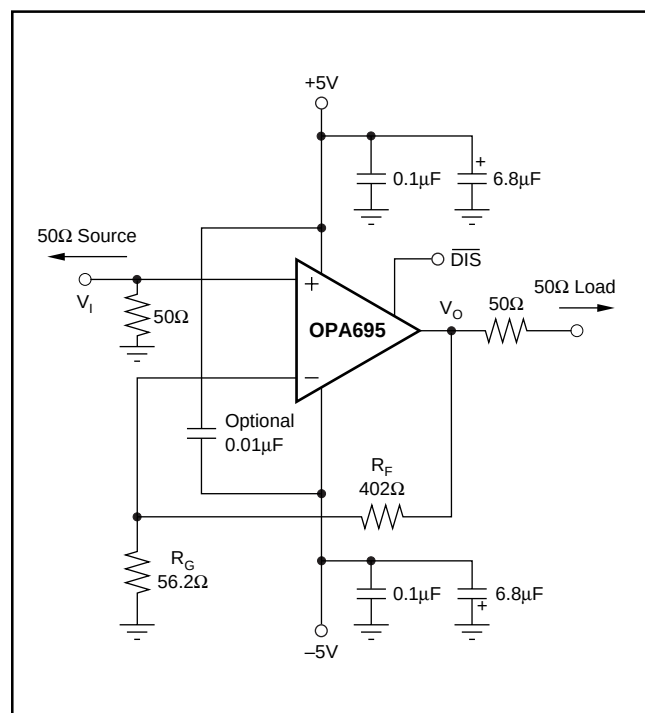
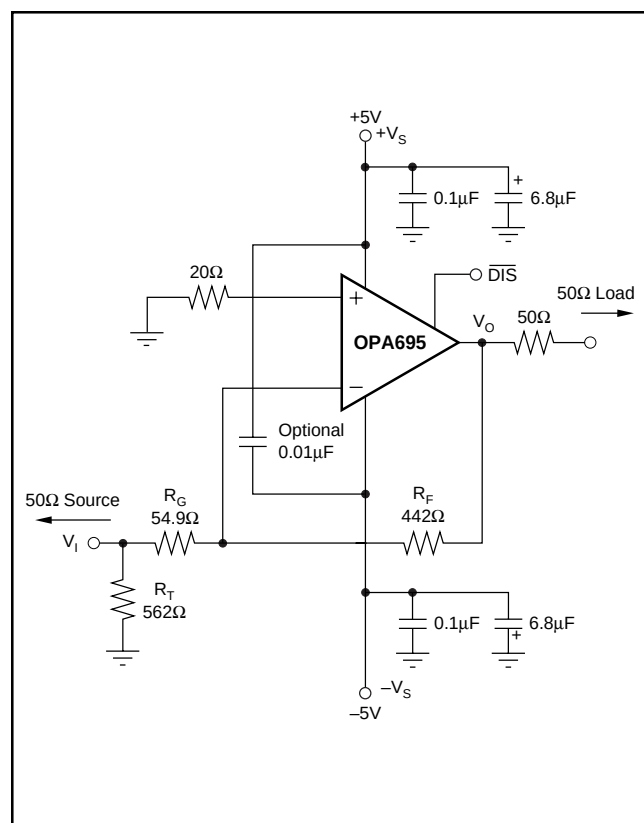
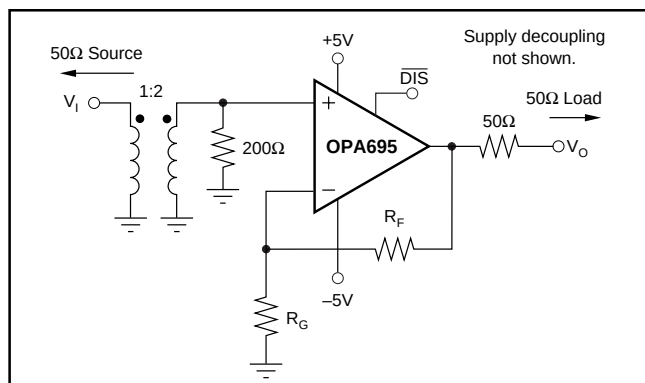

FIGURE 1. DC-Coupled, $G = +8\text{V/V}$, Bipolar Supply Specifications and Test Circuit.
FIGURE 2. DC-Coupled, $G = -8\text{V/V}$, Bipolar Supply Specifications and Test Circuit.
FIGURE 5. IF Amplifier with Improved Noise Figure.
Figure 1 shows the DC-coupled, gain of +8V/V, dual power supply circuit used as the basis of the $\pm$ 5V Specifications and Typical Characteristic curves. For test purposes, the input impedance is set to 50 Ω with a resistor to ground and the output impedance is set to 50 Ω with a series output resistor. Voltage swings reported in the specifications are taken directly at the input and output pins while load powers (dBm) are defined at a matched 50 Ω load. For the circuit of Figure 1, the total effective load will be 100 Ω || 458 Ω = 82 Ω . The disable control line ($\overline{\text{DIS}}$) is typically left open to get normal amplifier operation. The disable line must be asserted low to shut off the OPA695. One optional component is included in Figure 1. In addition to the usual power supply decoupling capacitors to ground, a 0.01 μ F capacitor is included between
Figure 2 shows the DC-coupled, gain of -8V/V , dual power supply circuit used as the basis of the Inverting Typical Characteristic curves. Inverting operation offers several performance benefits. Since there is no common mode signal across the input stage, the slew rate for inverting operation is higher and the distortion performance is slightly improved. An additional input resistor, R_T , is included in Figure 2 to set the input impedance equal to 50 Ω . The parallel combination of R_T and R_G set the input impedance. Both the non-inverting and inverting applications of Figures 1 and 2 will benefit from optimizing the feedback resistor (R_F) value for bandwidth (see the discussion in *Setting Resistor Values to Optimize Bandwidth*). The typical design sequence is to select the R_F value for best bandwidth, set R_G for the gain, then set R_T for the desired input impedance. As the gain increases for the inverting configuration, a point will be reached where R_G will equal 50 Ω , where R_T is removed and the input match is set by R_G only. With R_G fixed to achieve an input match to 50 Ω , R_F is simply increased, to increase gain. This will, however, quickly reduce the achievable bandwidth, as shown by the inverting gain of -16 frequency response in the Typical Characteristic curves. For gains $> 10\text{V/V}$ (14dB at the matched load), noninverting operation is recommended to maintain broader bandwidth.
The ultra-high, full-power bandwidth and 3rd-order intercept of the OPA695 may be used to good advantage in IF amplifier applications. Additional benefits to using a wideband op amp such as the OPA695 include extremely good (and independent) I/O impedance matching as well as very high reverse isolation. A designer more accustomed to using fixed-gain RF amplifiers will get almost perfect gain accuracy, much higher I/O return loss, and 3rd-order intercept points exceeding 30dBm (up to 110MHz) using only a 13mA supply current for the OPA695. Using the considerable design freedom achieved by adjusting the external resistors, the OPA695 can replace a wide range of fixed-gain RF amplifiers with a single part. To understand (in RF amplifier terms) how to take advantage of this, consider first the 4-S parameters (this will be done using the example circuits of Figures 1 and 2 on $\pm 5V$ supplies, but similar results can be obtained on a single +5V to +12V supply).
Input return loss is a measure of how nearly (over frequency) the input impedance matches the source impedance. This is relatively independent of gain setting for both the noninverting and inverting configurations. The Typical Characteristic curves show the magnitude of S_{11} for the circuits of Figures 1 and 2 through 1GHz (noninverting gain of +8 and inverting gain of -8 operation, respectively). Noninverting operation does offer much better matching to higher frequencies, with the only deviation due to the parasitic input capacitance of the input pin. The noninverting input match is simply set by the resistor to ground on the noninverting input, since the amplifier itself shows a very high input impedance. Inverting operation is also very good, but rises more quickly due to loop gain roll-off effects appearing at the inverting node. The inverting mode input match is set by the parallel combination of R_G and R_T in Figure 2, since the inverting amplifier node may be considered a virtual ground. A good, fixed-gain, RF amplifier would have an input, Voltage Standing Wave Ratio (VSWR) $< 1.2:1$. This corresponds to an S_{11} of -21dB. The OPA695 exceeds this performance through 100MHz for the inverting mode of operation, and through 400MHz for the noninverting mode.
Signal gains are most often referred to as V/V in op amp data sheets. This is the voltage gain from input to output and is set by external resistor ratios. Since the output impedance is set by a physical series resistor, the voltage gain to the matched load is cut in 1/2 by this resistor divider. The log gain to the matched load for the noninverting circuit of Figure 1 is: (1)
The log gain to the matched load for the inverting circuit of Figure 2 is: (2)
The specific resistor values used in Figures 1 and 2 give both a maximally flat bandwidth and a 12dB gain to the matched load. The design tables at the end of this section summarize the required resistor values over a range of desired gains for the circuits of Figures 1 and 2.
curves. The inverting configuration holds almost constant bandwidth (with correctly selected external resistor values) until R_G reduces to equal 50Ω , and remains at that value to satisfy the input impedance matching requirement, with further increases in gain achieved by increasing R_F in Figure 2. The bandwidth then decreases rapidly as shown by the gain of $-16V/V$ plot in the Typical Characteristic curves.
Reverse isolation is a measure of how much power injected into the output pin makes it back to the source. This is rarely specified for an op amp because it is so good. Op amps are very nearly uni-directional signal devices. Below 300MHz, the noninverting configuration of Figure 1 gives much better isolation than the inverting of Figure 2. Both are well below 40dB isolation through 350MHz.
Op amp noise figure equations include at least six terms (see the Noise Performance section), due to the external resistors. As a point of reference, the circuit of Figure 1 has an input noise figure of 14dB while the inverting configuration of Figure 2 has an input noise figure of 11dB. At higher gains, it is typical for the inverting noise figure to be slightly better than for an equivalent gain, noninverting configuration. One easy way to improve the noise figure for the noninverting configuration of the OPA695 is to include a step-up, 1:2 turns ratio transformer at the input. This configuration is shown in Figure 5.
TABLE I. Noninverting Wideband Op Amp (Figure 1).
TABLE II. Noninverting with a 1:2 Input Step-Up Transformer (Figure 5).